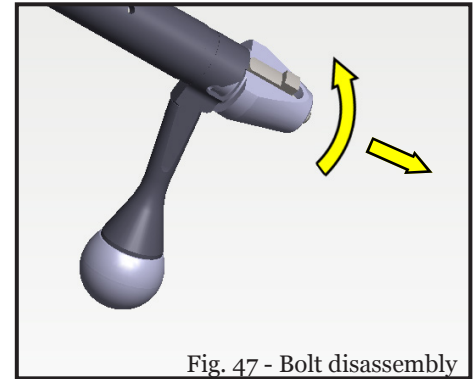

Fig. 47 - Bolt disassembly
1. Hold the bolt body firmly and then carefully turn the bolt shroud clockwise approximately  $\frac{1}{4}$  turn (Fig. 47).